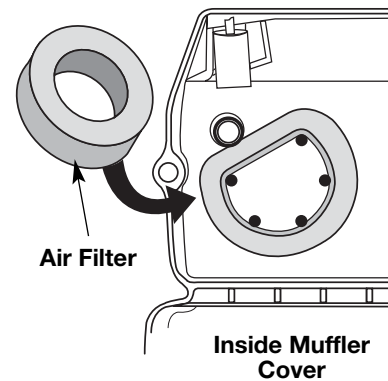

Fig. 26
2. Turn cover over and look inside to locate the air filter. Remove the air filter from inside the air filter/muffler cover (Fig. 26).
6. Replace the air filter inside the air filter/muffler cover (Fig. 26).